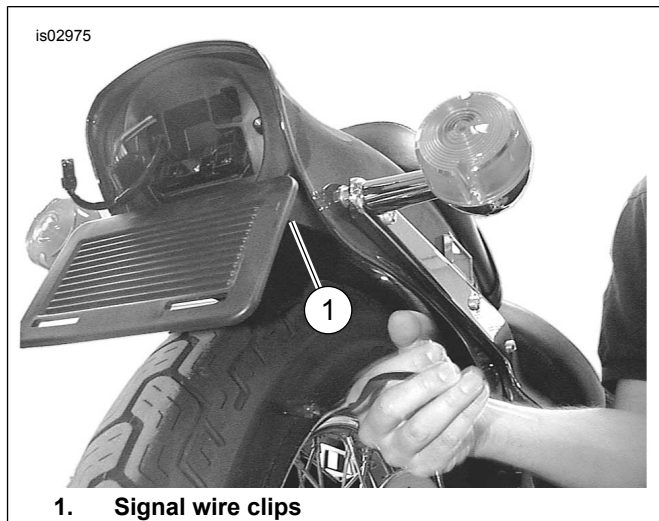

Figure 3. Remove Signal Wires from Clips
- c. See Figure 3. Remove turn signal wiring (running from signal to tail/stop lamp assembly from clip (1) under rear of fender and pull signal wire out. Repeat for the opposite side.